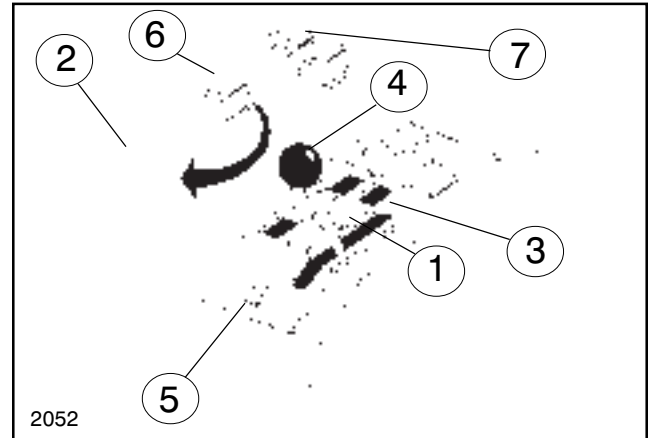

FIG. 6
13. Lift and remove the three plugs from the Center Console Panel and install the three Rocker Switches provided in the location shown in Fig. 6, page 3. Insure their orientation matches the orientation shown in FIG. 6, page 3 with the cut-out notch to the rear of the vehicle. This notch indicates the end of the switch to which the locking Arm (Connector Housing) will mate.
14. Unscrew and remove the Throttle Knob. Release the Draw Latch and remove the Center Console Panel. See FIG. 6, page 3.